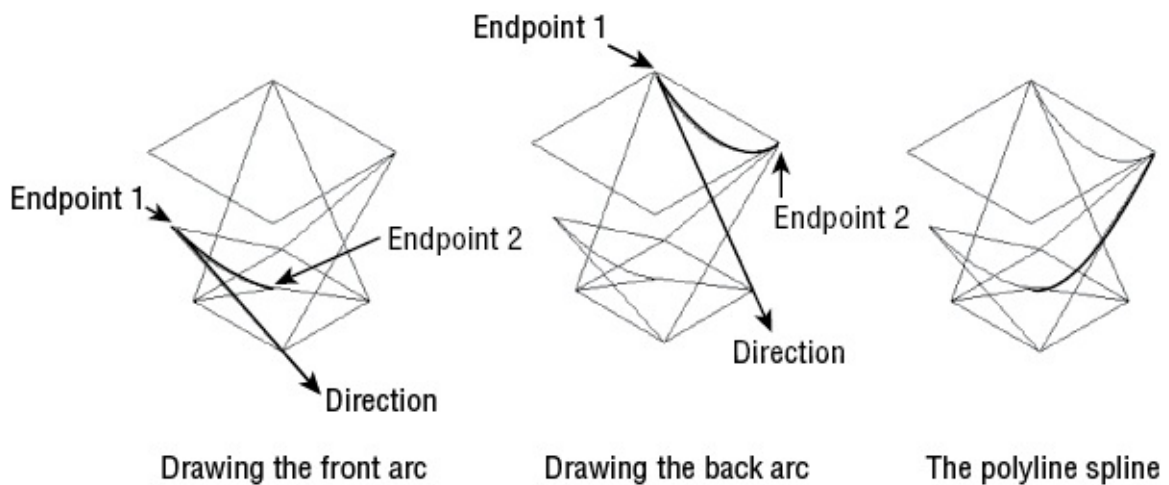

FIGURE 21.32 Drawing the front and back seat edge using arcs and a polyline spline
- Draw the arc defining the front edge of the chair (see Figure 21.32). Use the Endpoint osnap override to pick the top endpoints of the chair legs as the endpoints of the arc.
- Restore the UCS for the side, but instead of drawing an arc, use the Polyline tool and draw a polyline spline similar to the one in Figure 21.32. If you need help with polyline splines, see Chapter 18, “Drawing Curves.”